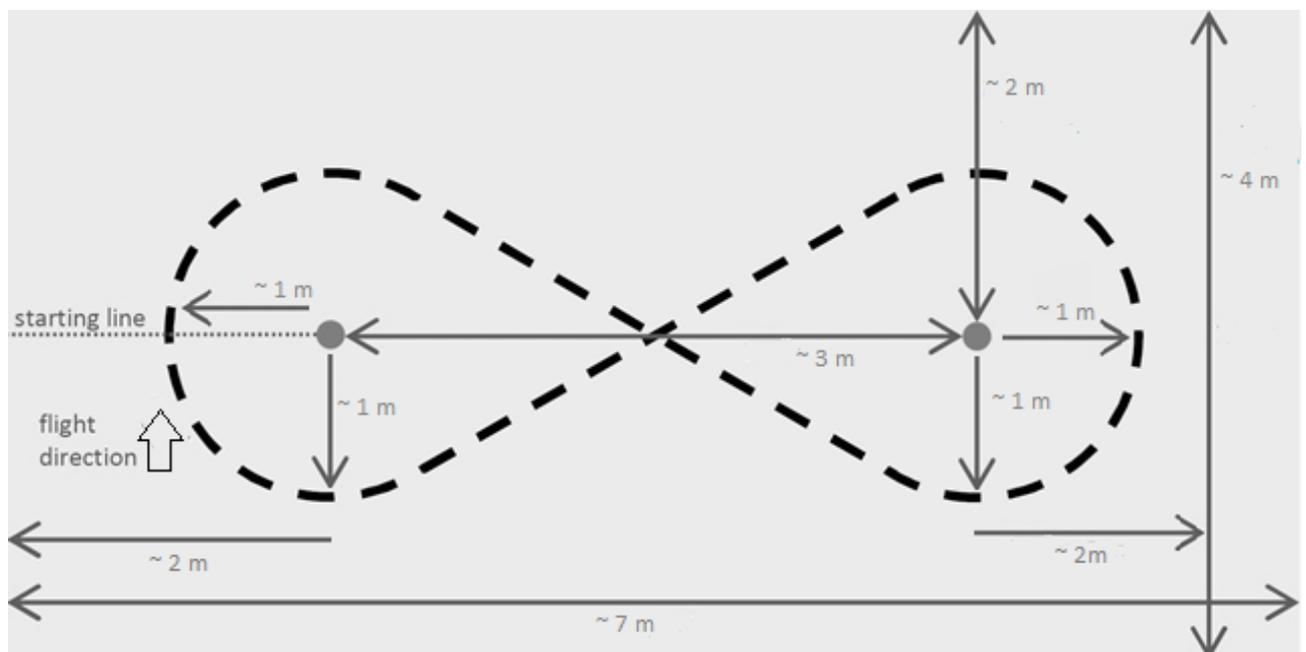

Fig. 1: Top view of the race area
1. The robot has to start the fly in clockwise and should follow the line in figure 8's around the two poles shown in Fig. 1.